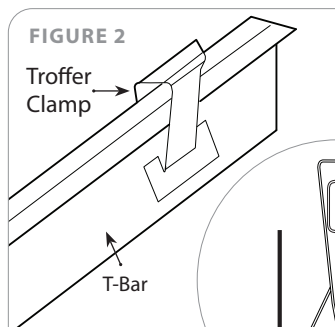

FIGURE 2
2. Lift fixture above grid & lower down until troffer clamps snap onto grid (Figure 2 & 3).